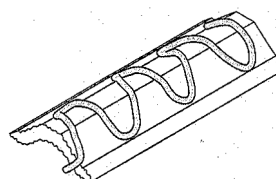

Fig. 30: S-pattern bead on the corner molding
4. **Apply the silicone.** Apply a 1/8" to 1/4" bead of 100% clear silicone sealant to the back of the corner molding in an S pattern (Fig. 30).